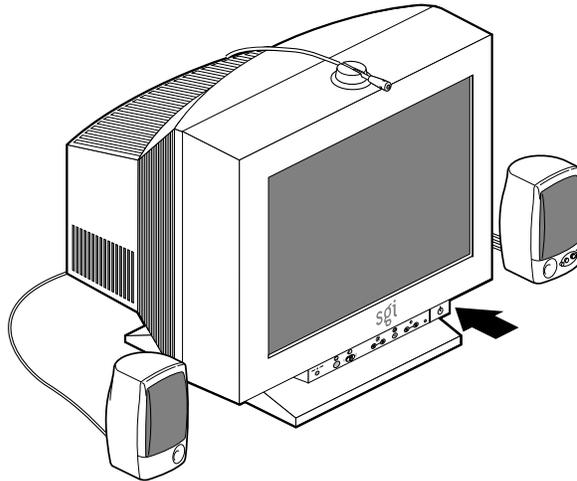

Figure 1-13 Powering On the Monitor
10. Press the power button on your monitor, as shown in Figure 1-13.